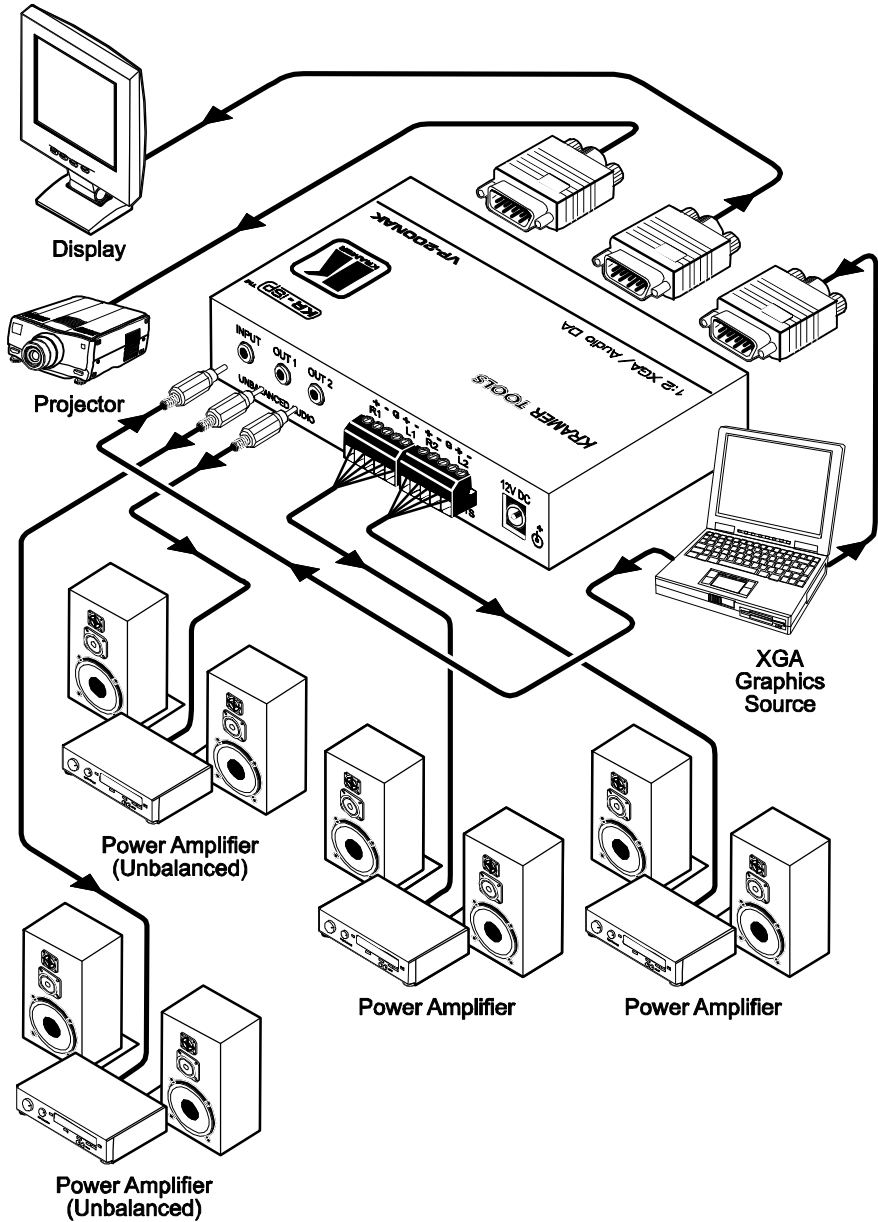

Figure 5: Connecting the VP-200NAK 1:2 XGA / Audio DA
To connect your **VP-200NAK 1:2 XGA / Audio DA**, as the example in Figure 5 illustrates, do the following¹:
6. Connect the 12V DC power adapter to the power socket and connect the adapter to the mains electricity (not shown in Figure 5).